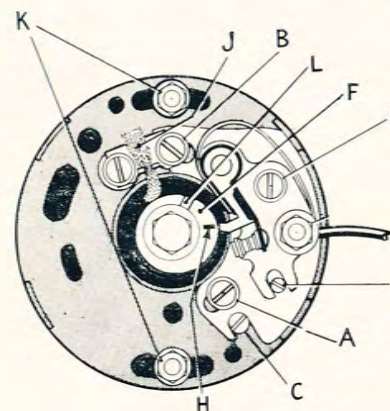

Fig. 9.
Contact Breaker (Fig. 9)
Should adjustment be required, slacken the two screws (A) and (B) Fig. 9, which secure the plate carrying the contact breaker assembly and adjust the eccentric pin (C) until the points are just opening and the above condition obtained. Retighten the screws securely.
If the spark setting is not correct, slacken the two screws (A) and (B) Fig. 9, which secure the plate carrying the contact breaker assembly and adjust the eccentric pin (C) until the points are just opening.